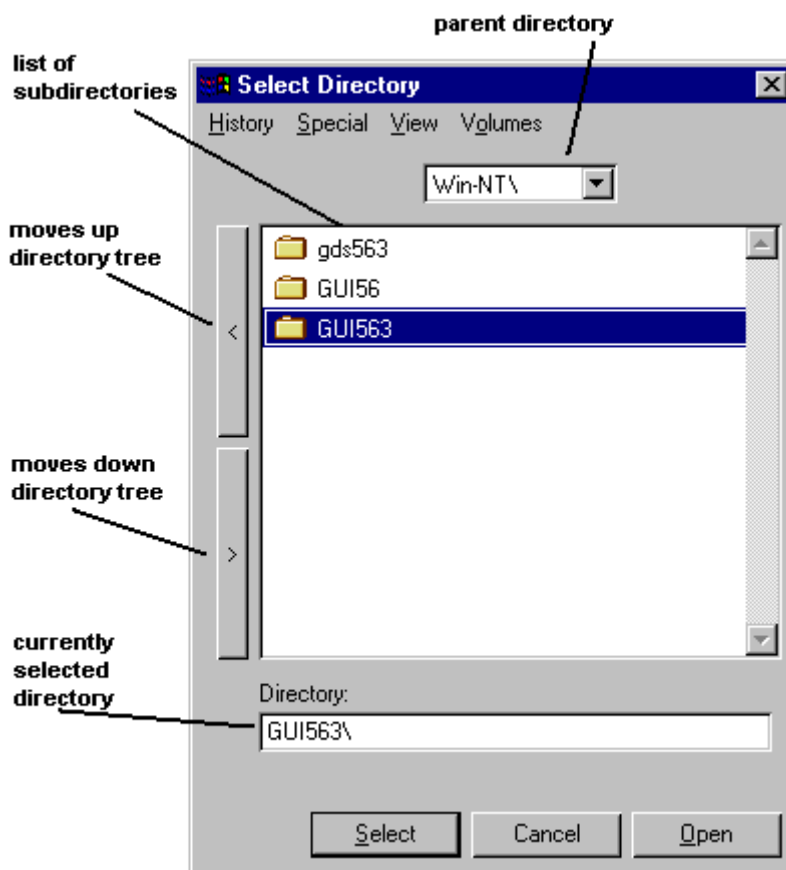

Figure 2-1. Setting the Working Directory Path
1. From the **File** menu choose **Path** then select **Set**. A dialog box similar to Figure 2-1 appears.